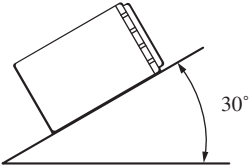

Fig. 3
- If installation angle exceeds 30° from horizontal, the unit might not give its optimum performance. (Fig. 3)